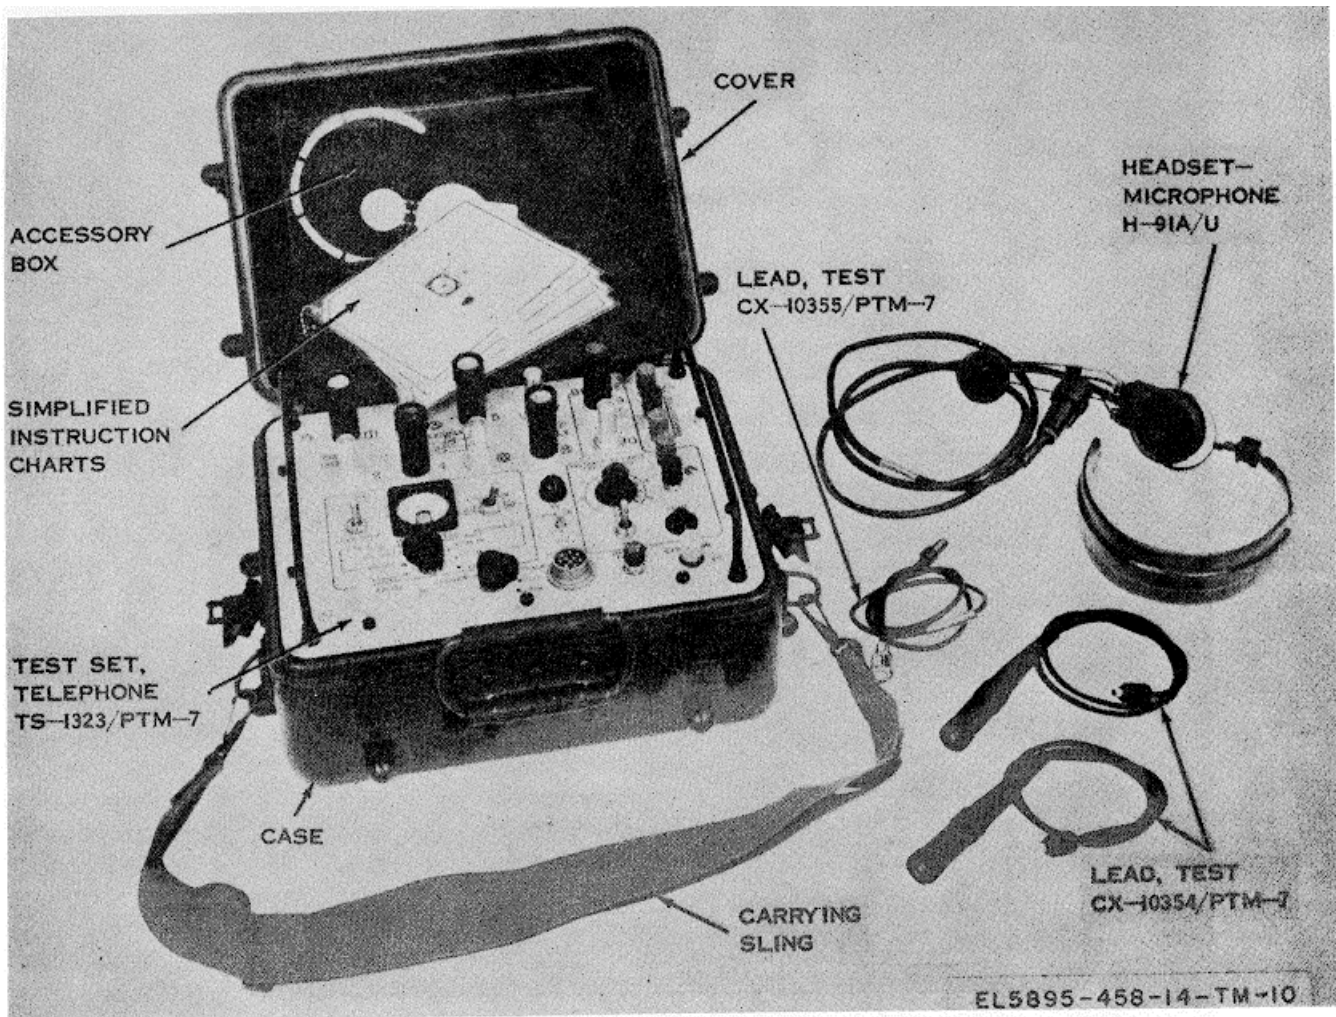

Figure 3-10. Test Set, Telephone AN/PTM-7.
b. Test Set, Telephone AN/PTM-7 (fig. 3-10) is required by a lineman to maintain the pcm transmission cable. The AN/PTM-7 is used in conjunction with the TD-204/U or TD-754/G to localize troubles in a pcm transmission cable.